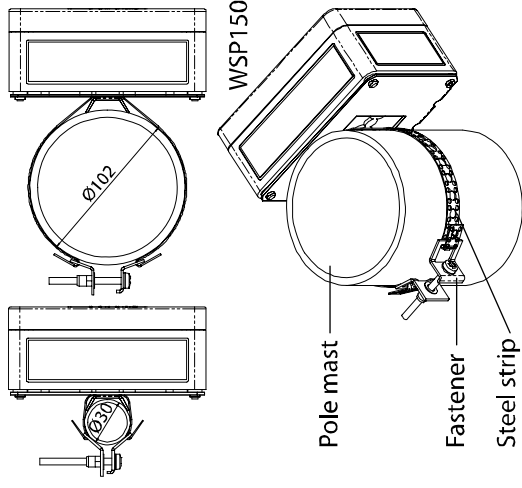

Figure 2 Installing WSP150 to pole mast
Figure 2 illustrates mounting of the WSP150 to a pole mast with the adjustable mounting clamp. For installation, follow the procedure below:
1. Attach the unit to the mast close to the protected unit with the adjustable mounting clamp, see Figure 2. Fix the steel strip beneath the latch in the back of the enclosure. Fix the steel strip around the pole mast. You may shorten the strip to a suitable length. Attach the steel strip ends to the fastener and fasten the unit to the mast by tightening the fastener's screw.